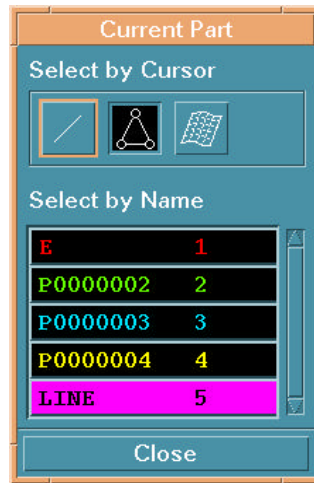

Figure 4.5.1 Select Part
- To select a target part, select TO PART. See Figure 4.5.1.
- Select ELEMENT(S) and the SELECT ELEMENTS dialog window is displayed. There are
This function changes the current part. All lines, surfaces, and elements that the user creates are automatically included in the current part. The name of the current part is displayed in its part color in the lower right corner of the screen in the DISPLAY OPTIONS window (the user can also click on this field to change the current part). A SELECT PART dialog window is displayed, see Figure 4.5.1.
- In Figure 4.5.1 the user can select a part by picking a location, line, element, or surface that is included in the part. The user can also select a part by name.